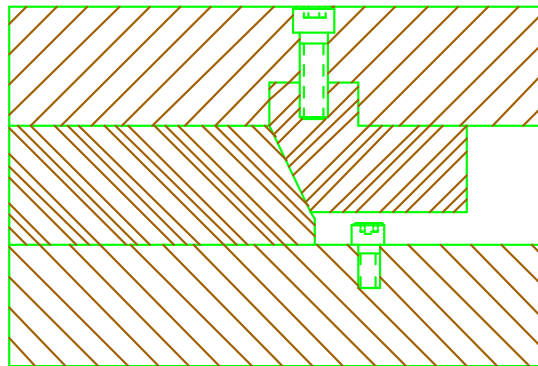

figure 4-4B
- 2) Molds with a separation between the "A" and "B" plates may use an "L" shaped heel block for added strength. See figure 4-4B.